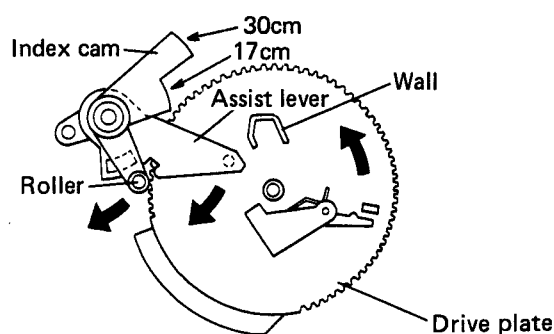

Fig. 2-9 Index cam position
3. Since the PU plate is attached to the tonearm, PU plate movement is converted into horizontal tonearm movement (see Fig. 2-9).
4. At the same time that the drive plate turns the PU plate, the assist plate is moved by the U-shaped projection, and the index cam is set to the size of the record to be played (again see Fig. 2-9).